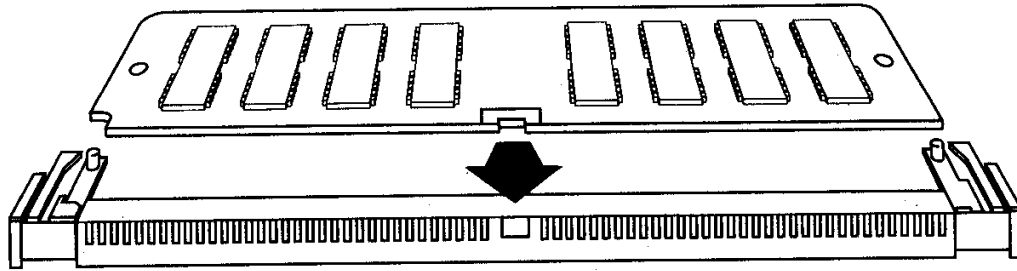

Figure 4-2. Inserting a SIMM into a socket
5. Insert the new SIMM carefully into the socket, as illustrated in Figure 4-2. Insert the connector edge of the module first, then press the opposite edge down and in to seat the module. SIMMs are notched to ensure proper orientation in the socket. Be certain that each module is fully seated and locked into place by the tabs at either end of the socket.